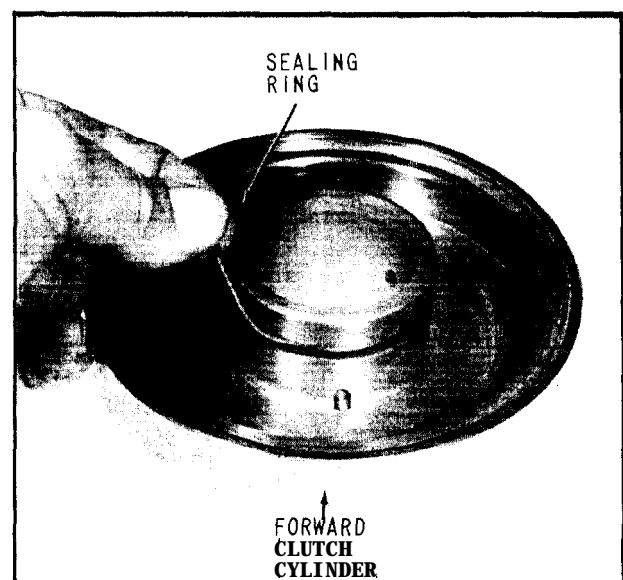

Fig. 40 Installing Sealing Ring
26. Install in forward clutch cylinder a well lubricated sealing ring, (Fig. 40). Lubricate entire forward clutch cylinder before continuing **assembly.**